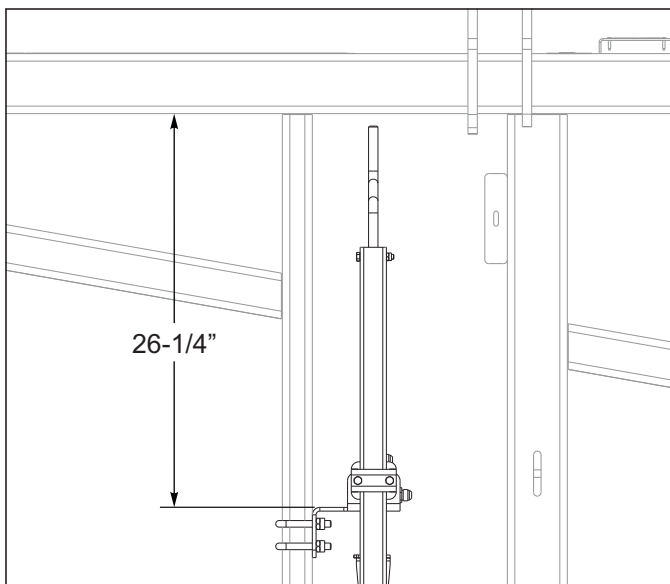

Figure 3-1: DCV Mount Placement
6. Attach the DCV mount bracket to the side of tube of LH center frame assembly with 1/2 x 3-1/4 x 4-9/16 u-bolts and 1/2 lock nuts. *See Figures 3-1* for placement.